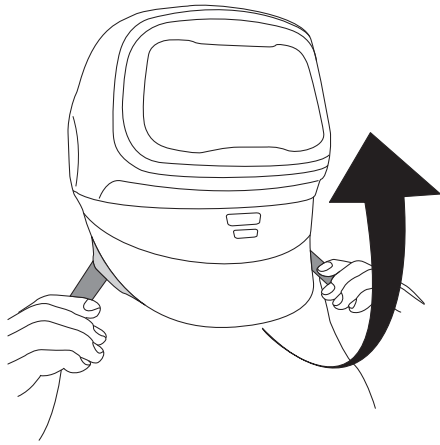

Fig. 7a
- a. To raise, pull out and up on the tabs located on either side of the faceseal. To lower, pull down on the tabs and ensure the faceseal is seated under the chin. Ensure the inner shield is fully down and covering your face. The welding helmet should sit level on your head with the faceseal gently hugging your face (Fig. 7a).